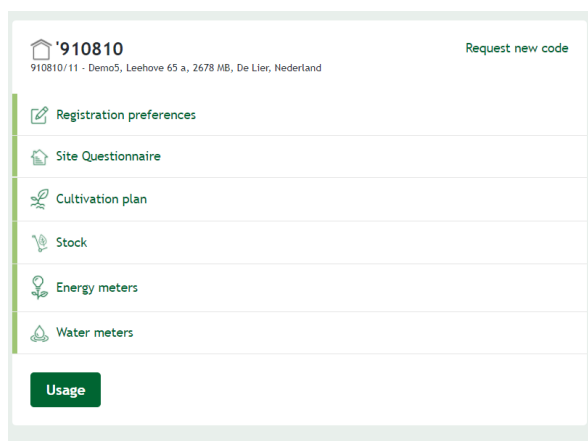

Figure 2
6. Now click on 'Sites'. You will find your sub-records on this page. For each sub-record, enter your record-keeping preferences and complete the site questionnaire (see figure 2).